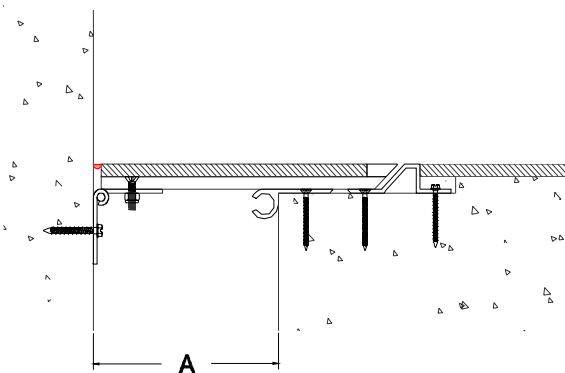

Figure 10
STEP 12. Install finish floor material at this time (see Figure 10). Install finish floor material in accordance with the instructions provided by the finish floor material manufacturer. Place sealant (by others) in the small opening between the edge of the cover plate and the wall. Silicone sealant is recommended. Install the sealant in accordance with the sealant manufacturer's instructions.